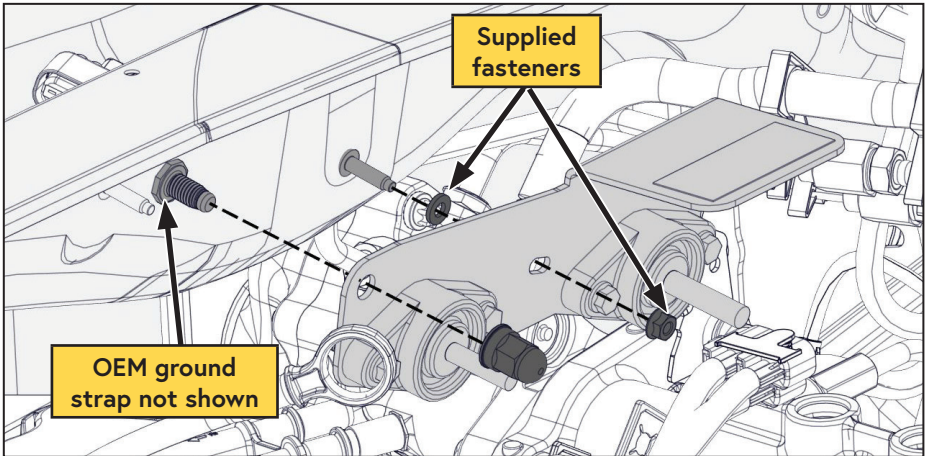

Figure 69 — Mount battery disconnect bracket
- ☐ Using the supplied nut, washer, and the retained ground wire cap nut, mount the battery disconnect bracket to the firewall (Figure 69).